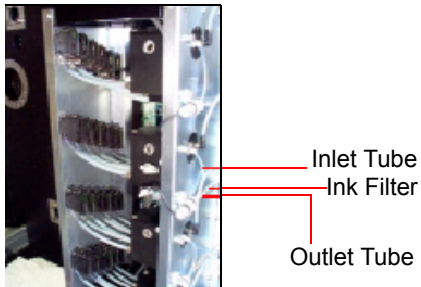

Figure 46. Ink Filter and Tubes
5. Disconnect the inlet and outlet tubes from the ink filter - see Figure 46.